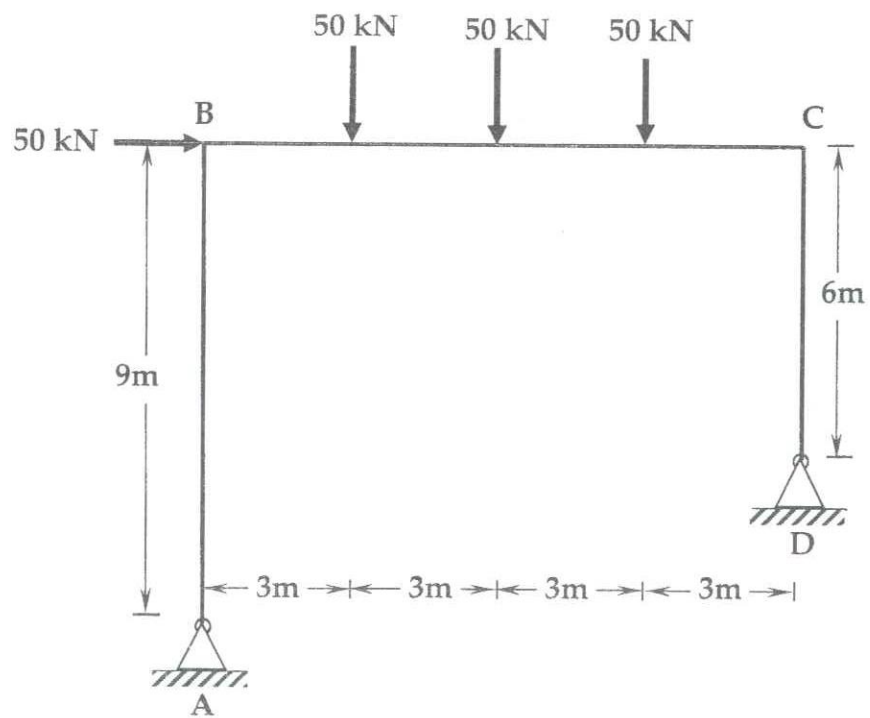

Figure Q5
c) A portal frame ($ABCD$) supports three vertical loads of 50 kN each along the beam BC as shown in Figure Q5. A horizontal load of 50 kN is also applied at the node B . Plastic moment capacities of the members AB , BC and CD are 150 kNm, 150 kNm and 75 kNm respectively. Determine;